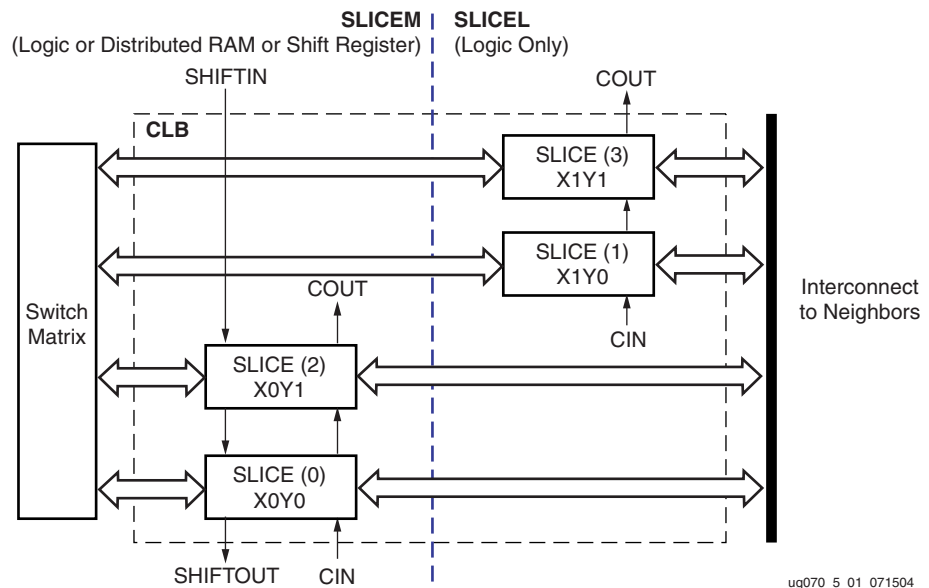

Figure 5-1: Arrangement of Slices within the CLB
The Configurable Logic Blocks (CLBs) are the main logic resource for implementing sequential as well as combinatorial circuits. Each CLB element is connected to a switch matrix to access to the general routing matrix (shown in Figure 5-1). A CLB element contains four interconnected slices. These slices are grouped in pairs. Each pair is organized as a column. SLICEM indicates the pair of slices in the left column, and SLICEL designates the pair of slices in the right column. Each pair in a column has an independent carry chain; however, only the slices in SLICEM have a common shift chain.
The Xilinx tools designate slices with the following definitions. An “X” followed by a number identifies a column of slices. The number counts up in sequence from the left to the right. A “Y” followed by a number identifies the position of each slice in a pair as well as the CLB row. The “Y” number counts slices starting from the bottom in sequence: 0, 1, 0, 1 (the first CLB row); 2, 3, 2, 3 (the second CLB row); etc. Figure 5-1 shows the CLB located in the bottom-left corner of the die. Slices X0Y0 and X0Y1 constitute the SLICEM column-pair, and slices X1Y0 and X1Y1 constitute the SLICEL column-pair. For each CLB, SLICEM indicates the pair of slices labeled with an even number – SLICE(0) or SLICE(2), and SLICEL designates the pair of slices with an odd number – SLICE(1) or SLICE(3).